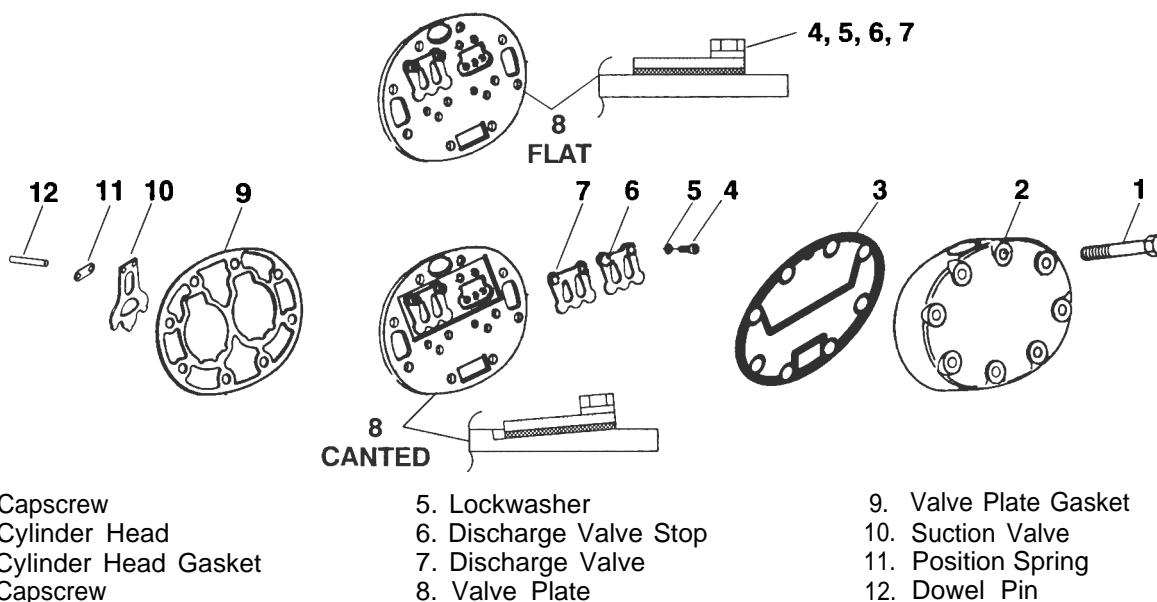

Figure 3-1. Cylinder Head & Valve Plate
1. Loosen cylinder head capscrews. If the head is stuck, tap it lightly with a wooden or lead mallet to free it. Be careful not to drop the head or damage the gasket sealing surface. Remove cylinder head capscrews and gasket. (See Figure 3-1)